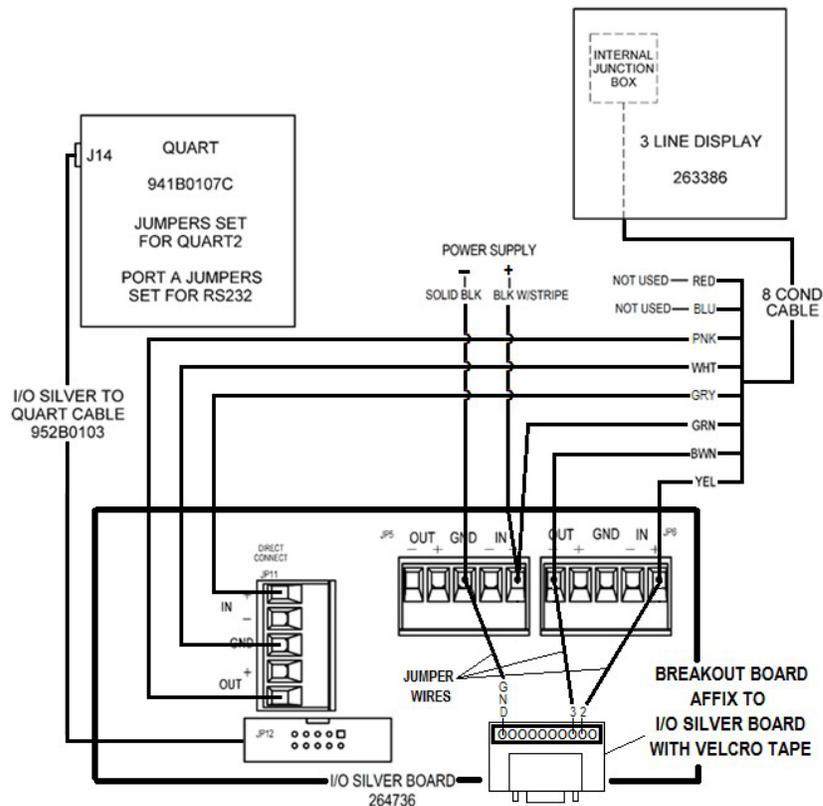

Figure 15
The display may now be connected to the new FMU components. Figure 15 illustrates the connections in the FMU. Additional wiring guidance is provided in the **Troubleshooting** section for troubleshooting purposes.
3. Perform the following to make connections to the 264736 I/O Silver Board provided with the retrofit kit (see Figure 15):